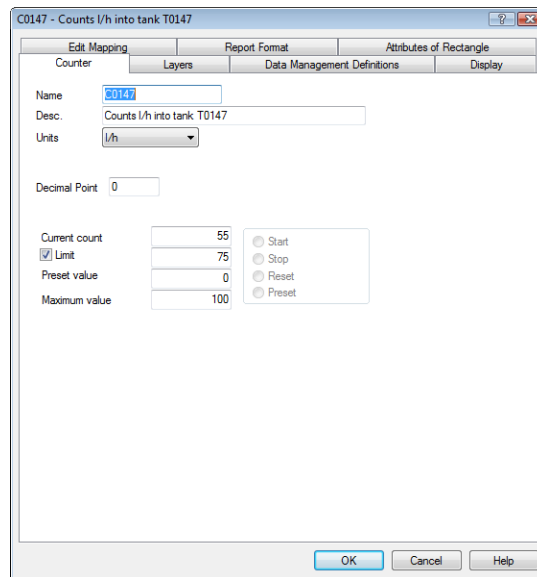

Figure 3.47 On the **Counter** tab you specify the measuring unit, the preset and maximum values and whether you want to enable alarm supervision (Limit check box).
- Select the measuring unit and the values as shown in Figure 3.47.